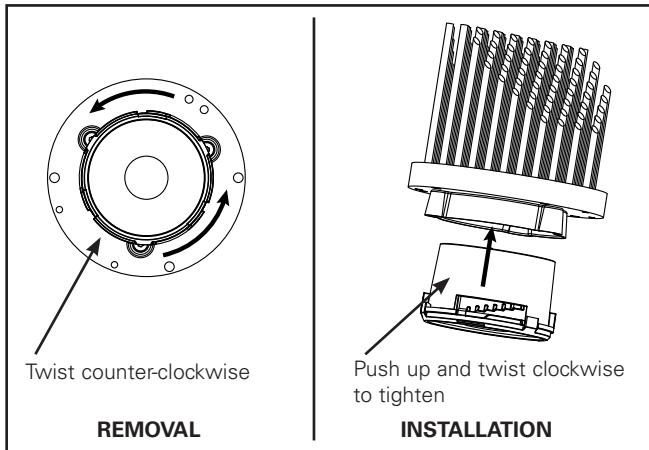

Figure 5
1. To remove optic, twist gently counter-clockwise. To replace, push optic and twist gently clockwise until it "clicks" (see Figure 5).